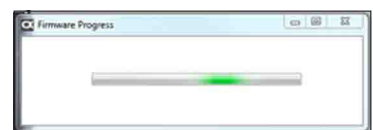

Fig. 120
13. The CubeX software will now install the firmware onto the CubeX printer. (Fig. 120)